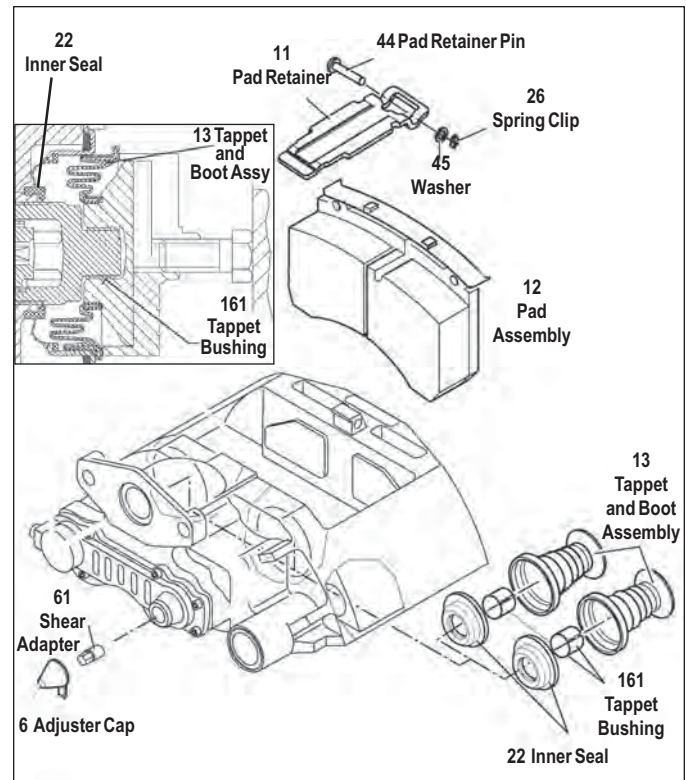

FIGURE 46 - ADB EXPLODED AND SECTION VIEWS
5.4.5 Re-installation. Before installing the brake chamber, the actuator flange (See Figure 46, arrow "C") must be cleaned and inspected. Consult the vehicle manual. The spherical cup in the lever (19) must be greased with white grease (Part No. I114525 or K021964). Add grease to the rubber gasket on the chamber.